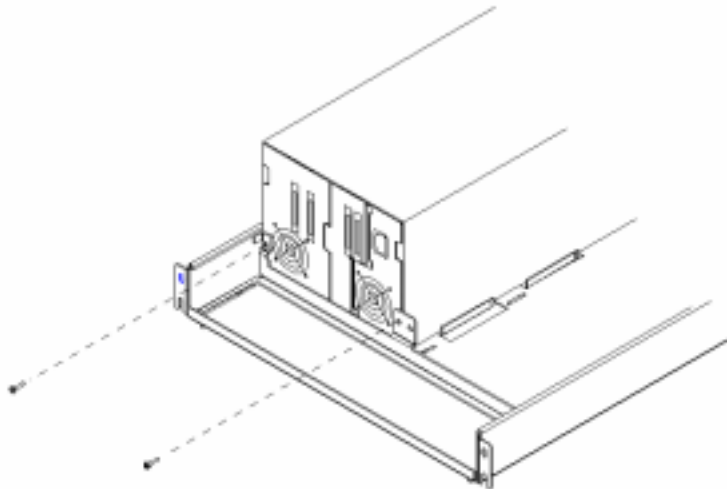

FIGURE A-1 Unbolting the Autoloader
- a. **Remove the two screws that secure the back of the Autoloader to the shelf. See FIGURE A-1 on page A-2.**